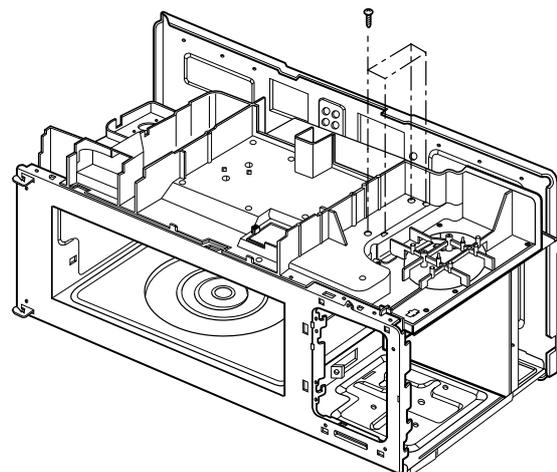

Figure 14
- (5) Remove four tap tite screws securing the magnetron to the wave guide. (Figure 14)
- (6) Remove the magnetron VERY CAREFULLY.